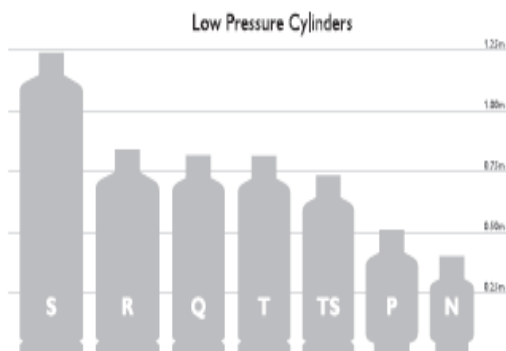

Figure 2 Size Range of low pressure gas cylinders available
2. Low Pressure Cylinders – Low pressure cylinders come in a variety of sizes, see Figure 2. Some examples of gases supplied in low pressure cylinder are LPG and refrigerant gases.